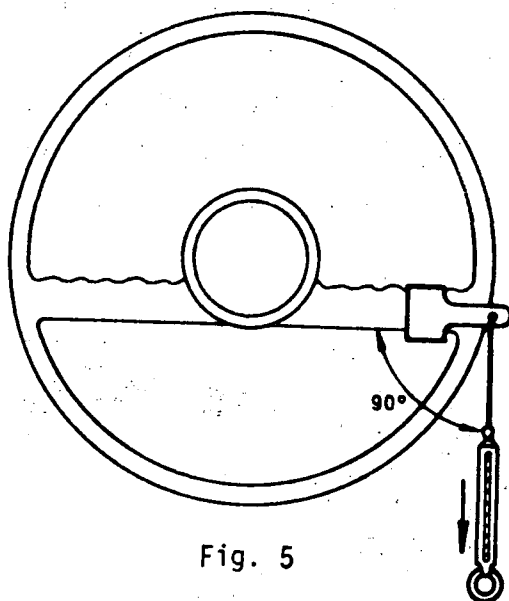

Fig. 5
- The tension required to operate the steering wheel, so enabling the verification of the pre-load of the bearings of the main-shaft (fig. 5).